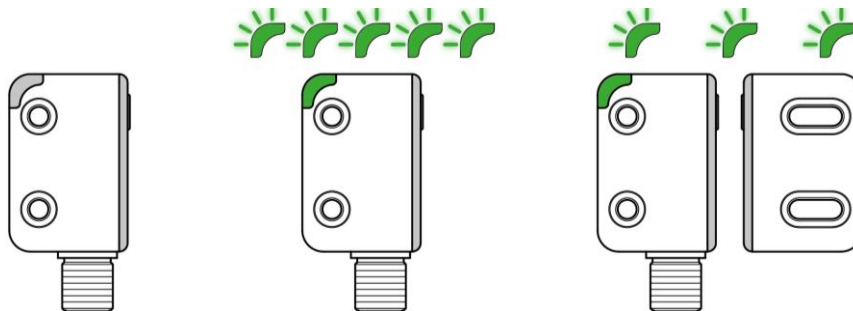

Figure 28 - Teach-in signals
- Power on the R-Safe RFID sensor (Figure 28, condition A).
- After power on, the sensor will be ready for pairing with the actuator (Figure 28, condition B).
- When the actuator is approaching the RFID sensor at a distance $\leq 2\text{mm}$, the sensor is programmed after 5 seconds (Figure 28, condition C).